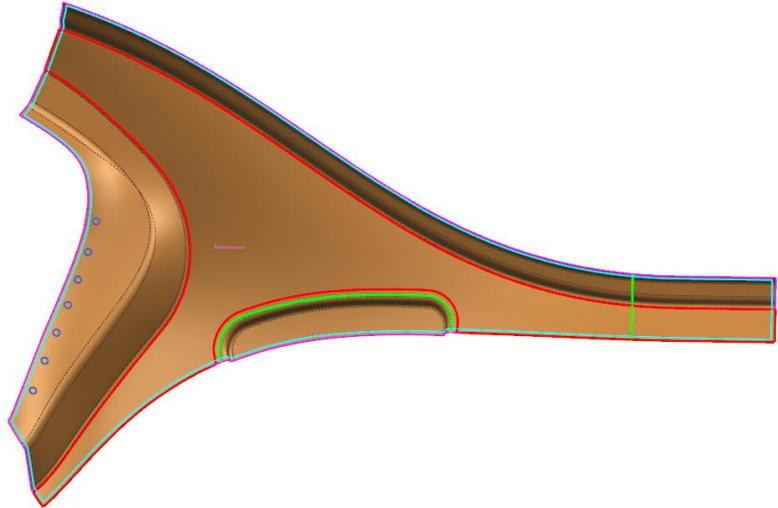

Figure P4–1
1. Open **PROJECT4_C_PILLAR.prt**. The model displays as shown in Figure P4–1.